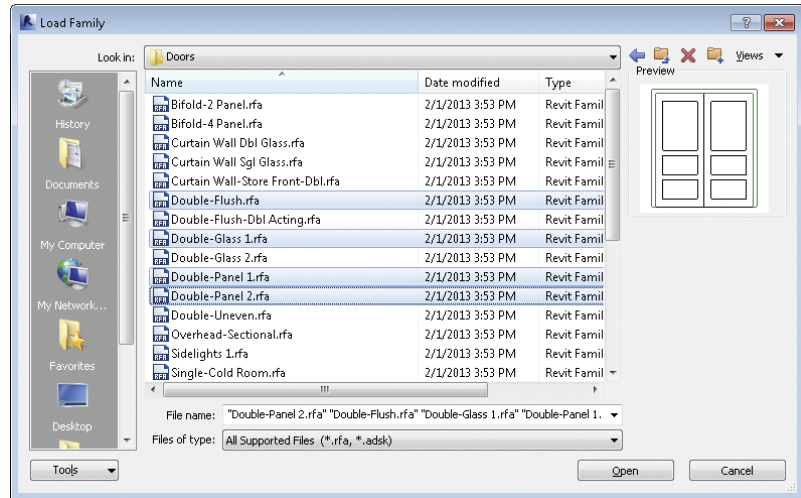

FIGURE 5.8 Selecting multiple files when loading families
10. Select several families and click Open (Figure 5.8).